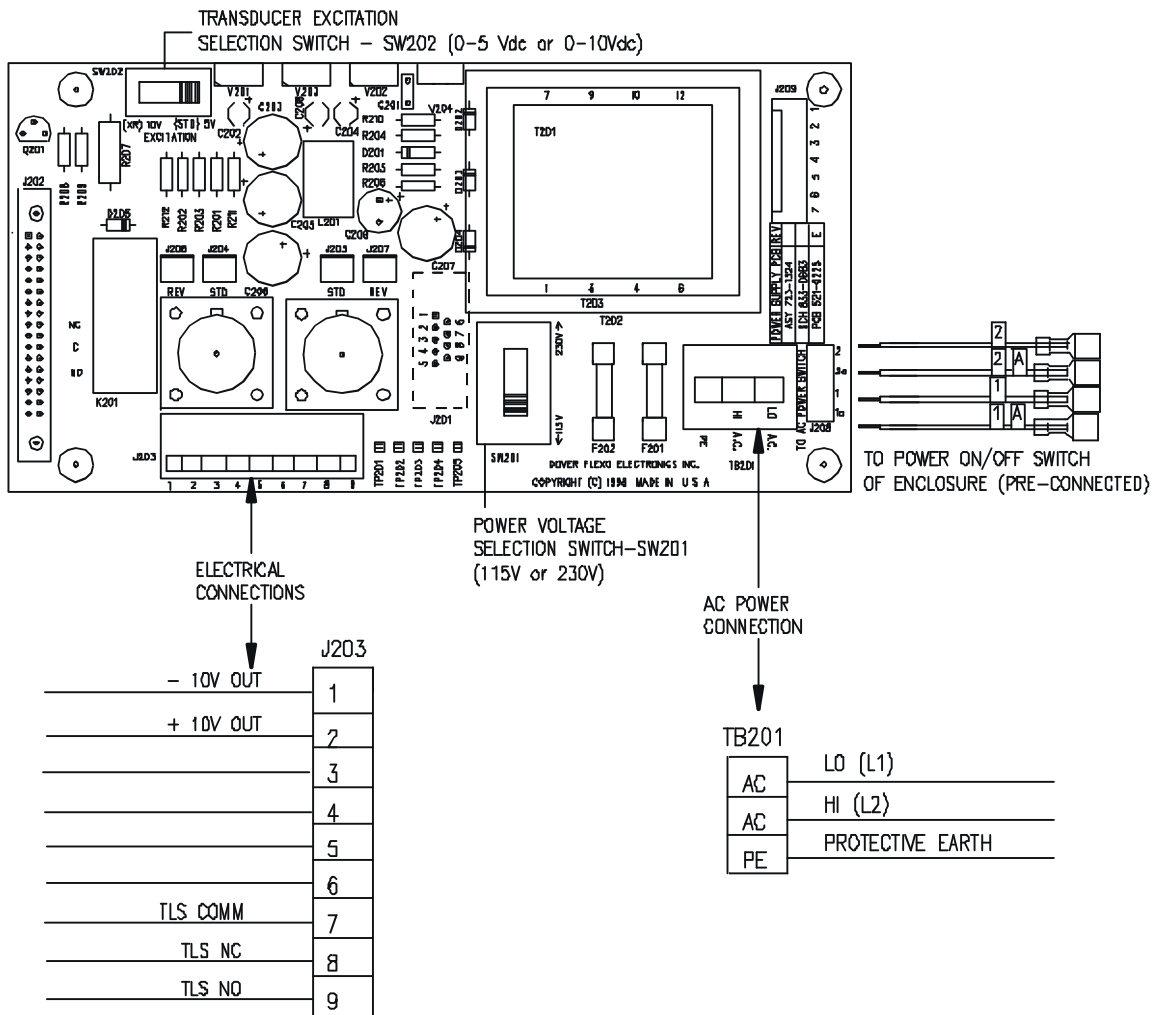

Figure 4 - ELECTRICAL CONNECTIONS
2.5 ELECTRICAL CONNECTIONS (Refer to Fig. 4 below)